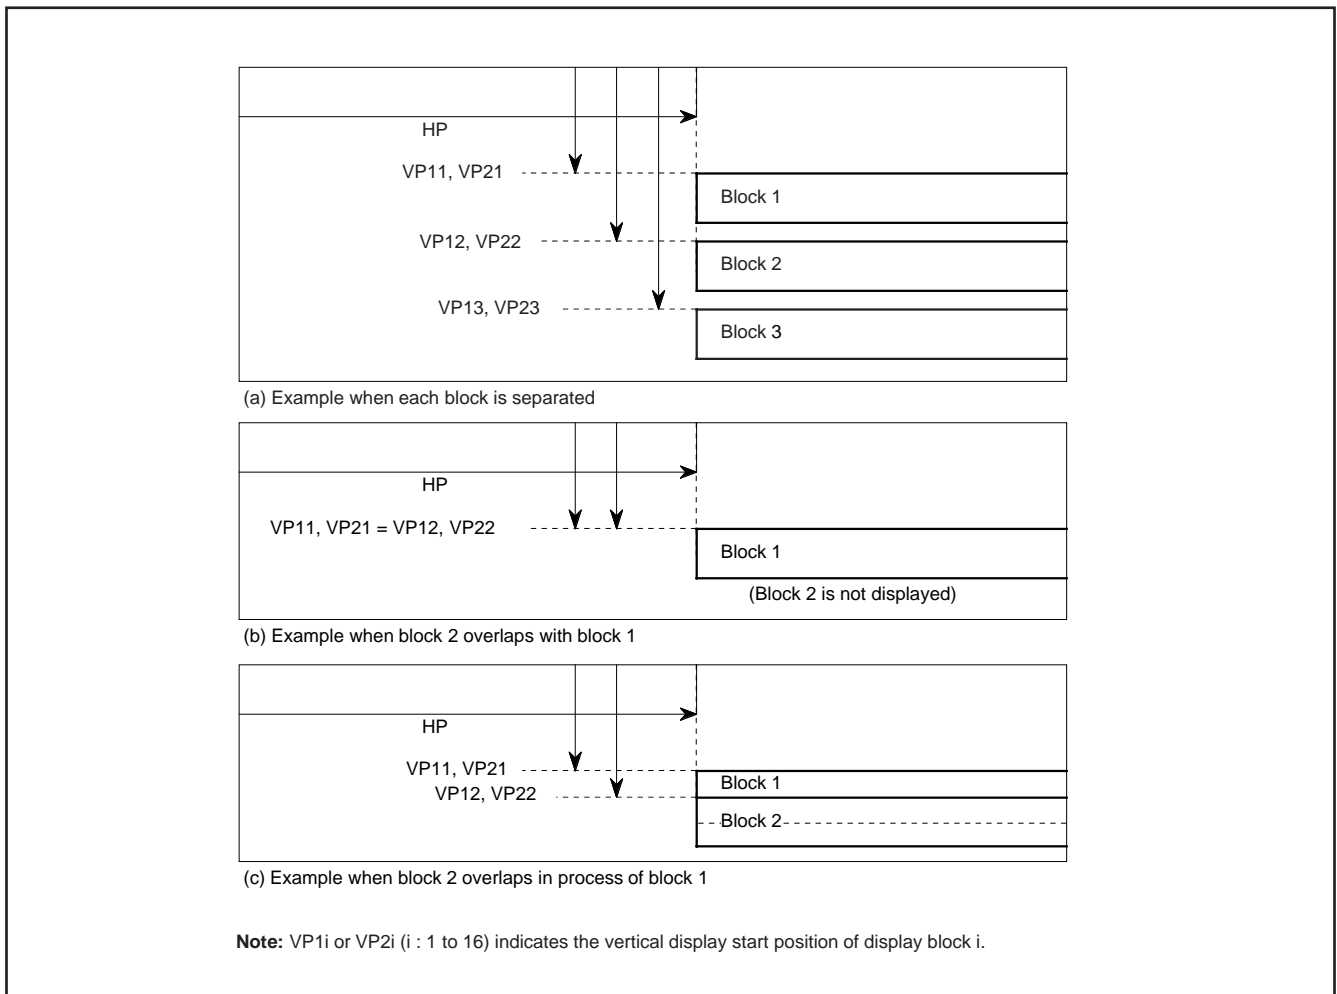

Fig. 12.11.8 Display Position
- When the display position is overlapped with another block (Figure 12.11.8 (b)), a lower block number (1 to 16) is displayed on the front.
- When another block display position appears while one block is displayed (Figure 12.11.8 (c)), the block with a larger set value as the vertical display start position is displayed. However, do not display block with the dot size of 2Tc X 2H or 3Tc X 3H during display period (*) of another block.